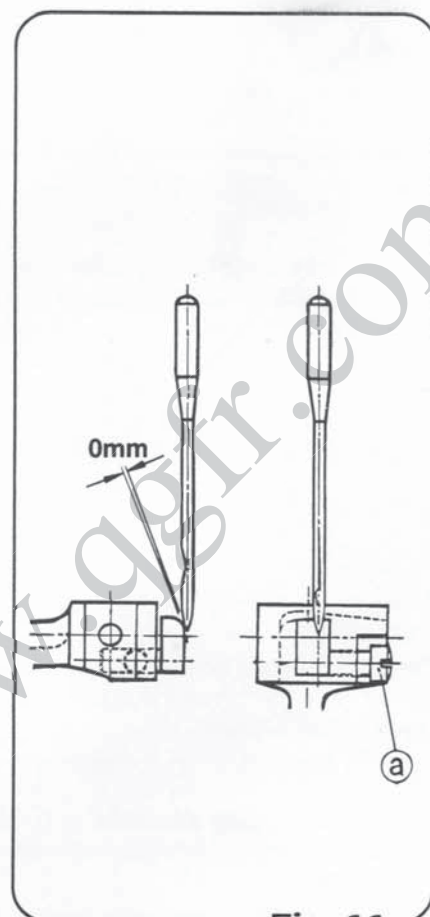

Fig. 11
When the stitch width is changed, the needle guide must be adjusted accordingly, as the clearance between the needle guide and the needle will change. Turn the pulley in the forward direction after loosening the screw ① of Fig.11 and adjust the clearance between the needle and needle guide to zero when the end of the looper comes to the side of the needle, as shown in (Fig.11) and tighten the screw ①.
- * 导针在最前进时, 如图11所示, 导针对针的间隔必须终于0mm, 放松螺钉而调整。